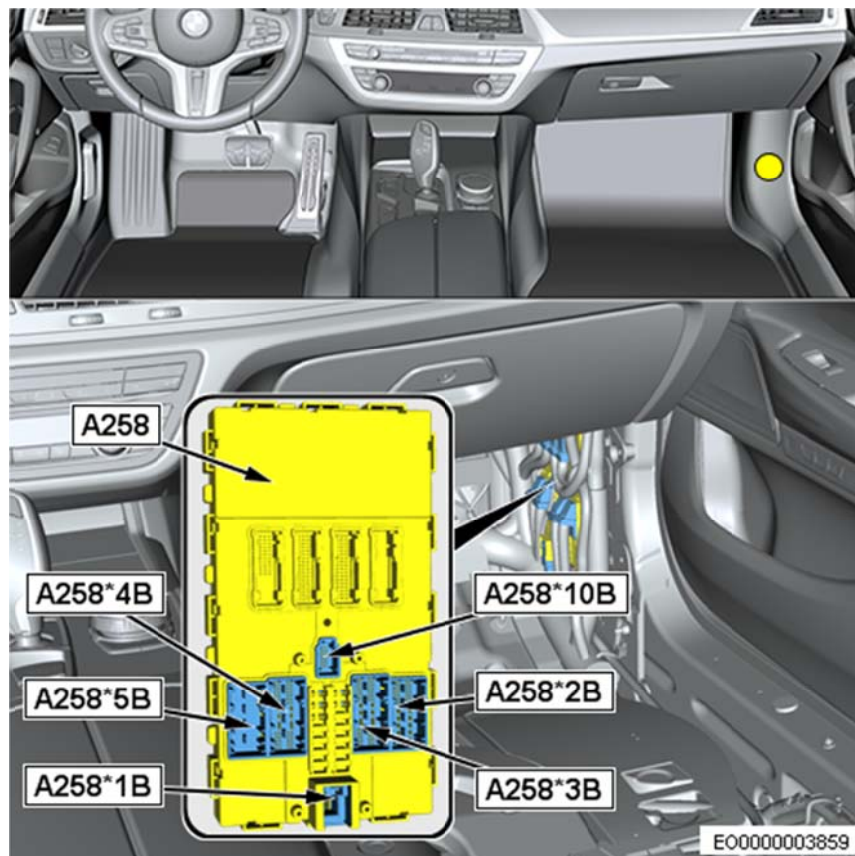

Fig. 4 BDC appearance
- 2) Connect in parallel to connector A258_3B (pin 49) of BDC the white/red wire from retrofit adapter (Left input from direction indicator repeaters) (Fig. 4).
- 3) Connect in parallel to connector A258_3B (pin 37) of BDC the white/black wire from retrofit adapter (Right input from direction indicator repeaters) (Fig. 4).